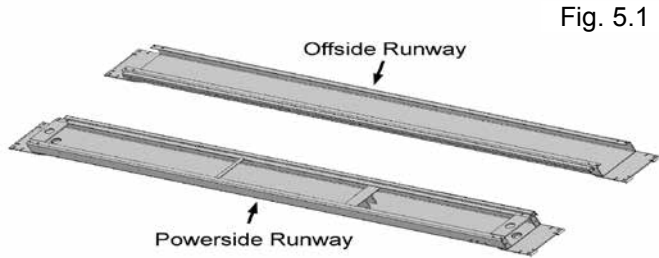

Fig. 5.1
1. Locate the POWERSIDE RUNWAY easily identified by the Cylinder and Sheave roller mounting structures welded on the underside. The Powerside Runway will be positioned on the side of the lift where the Power Unit is installed. (See Fig. 5.1)